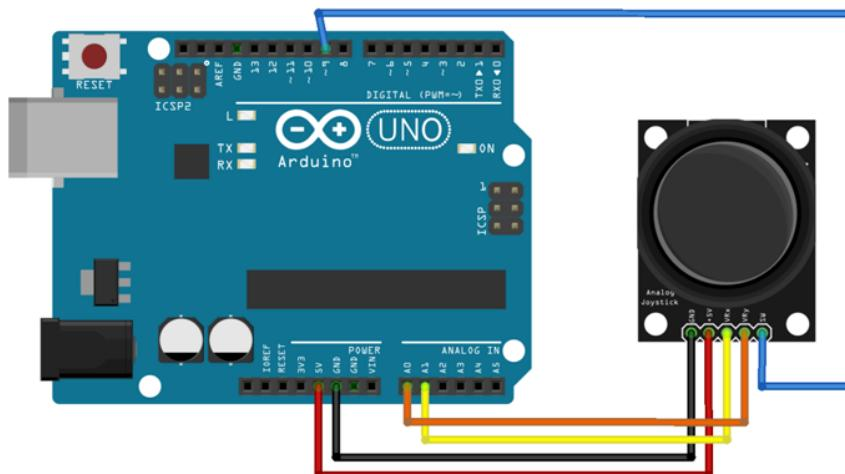

Figure 4.1 – Wiring diagram for joystick module with Arduino UNO R4 Minima
- Connect the joystick as shown in the **Wiring Diagram (Figure 4.1)**.